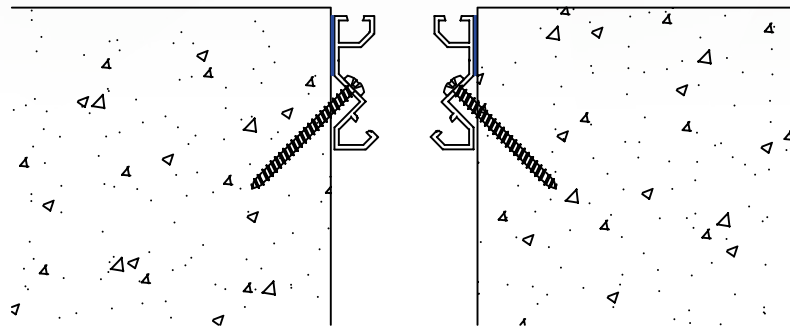

Figure 3.
13. Repeat the procedures, as directed, in Step 5 through Step 12 for the corresponding opposite base member (see Figure 3).